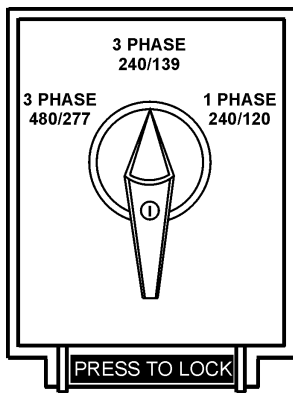

Figure 13. Voltage Selector Switch
A wide range of voltages are available to supply voltage for many different applications. Voltages are selected by using the **voltage selector** switch (Figure 13). To obtain some of the voltages as listed in Table 7 (see below) will require a fine adjustment using the **voltage regulator (VR) control knob** located on the control panel.
The voltage selector switch (Figure 13) is located above the output terminal panel's Hard Wire Hook-up Panel. It has been provided for ease of voltage selection..